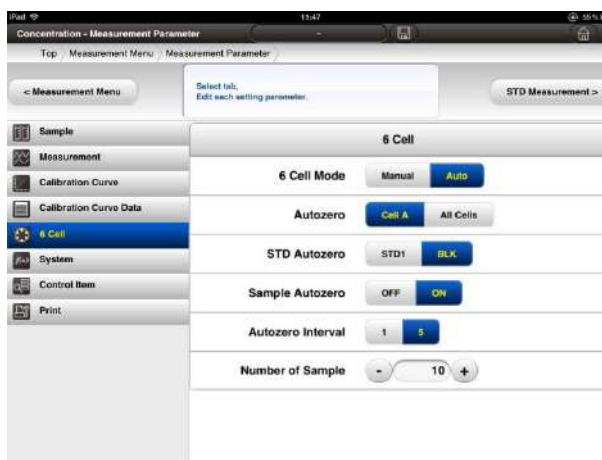

Fig. 4-8 6 Cell Window
- (1) Press  [6 cell tab] in order to set the six cell conditions.
- (2) The 6 cell conditions window (Fig. 4-8) will be shown (case of calibration curve type: linear straight line).